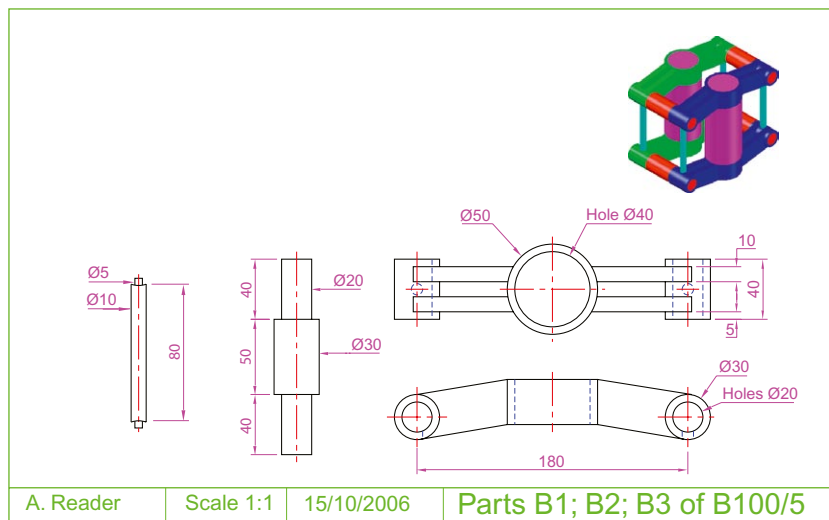

Fig. 19.5 Example – Raster image in a drawing
## Example – Raster image in a drawing (Fig. 19.5)
10. Following the details given on page 386 attach **Fig05.bmp** to the drawing at a suitable position (Fig. 19.5).
2. Place the image in position in the drawing area. In Fig. 19.5 the orthographic projections have been placed within a margin and a title block has been added.
1. Open a four-viewport screen of the assembled 3D model shown in the first example (Fig. 19.5).
1. Open the orthographic drawing with its raster image (Fig. 19.5).